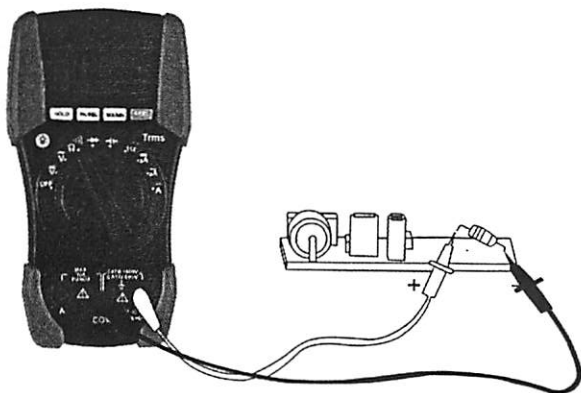

Fig. 6: Operation for Resistance measurement and Continuity test
2. Insert the test leads into the jack, the red plug into  $\rightarrow\text{HzV}\Omega\mu\text{A}$  jack and black plug into COM jack (see Fig. 6).